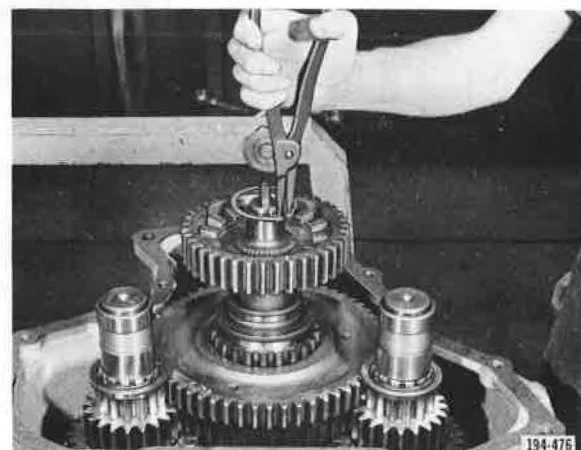

Figure 5-585. Removing Lo-Range Main Drive Gear Retaining Snap Ring
1. With front case in a vertical position, remove mainshaft Lo-range main drive gear retaining snap ring. See Figure 5-585.